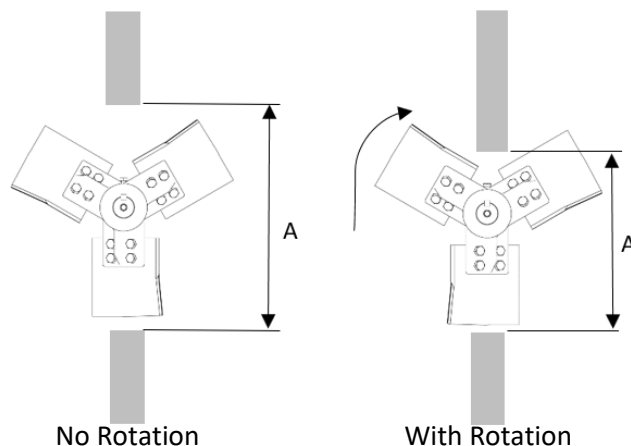

Figure 7: Impeller Rotational Installation
1. Remove the outer belt guard, belt, and motor [30 (Figure 6), 2, 13] as necessary to ease installation. Note that small flange openings may require removal of the impeller [15] prior to agitator installation. For larger flange openings, the impeller can remain installed on the shaft by carefully rotating the shaft as the impeller passes through the tank flange opening. Verify the torque value on the set screw [29 (Figure 14)] and washer bolt [26 (Figure 14)] prior to installation if the hub will not be removed. See Figure 7.
The impeller assembly may be removed and installed inside the tank for smaller flange openings. In some cases, you can rotate the shaft to install the impeller without removing it from the shaft as shown in Figure 7.